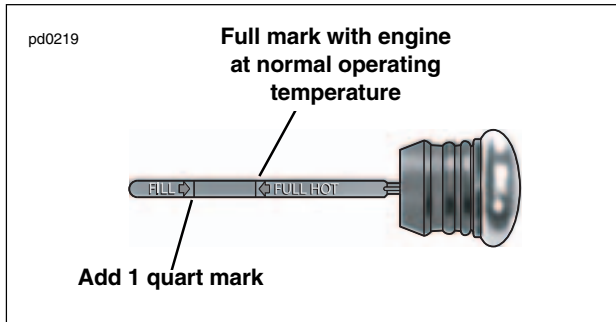

Figure 4-4. Engine Oil Dipstick
3. See Figure 4-4. Remove filler cap, and check oil level on dipstick. If oil level in tank is below lower mark on dipstick, add 3/4 quart (0.7 liter) of Harley-Davidson oil to tank. Refer to the Softail Models Service Manual for recommended viscosity.